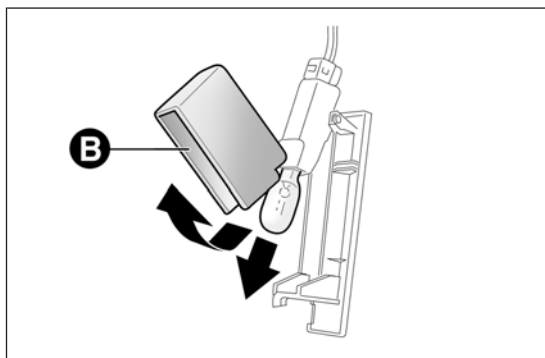

fig. 143
- ❑ open the protection B fig. 143 and replace the bulb;